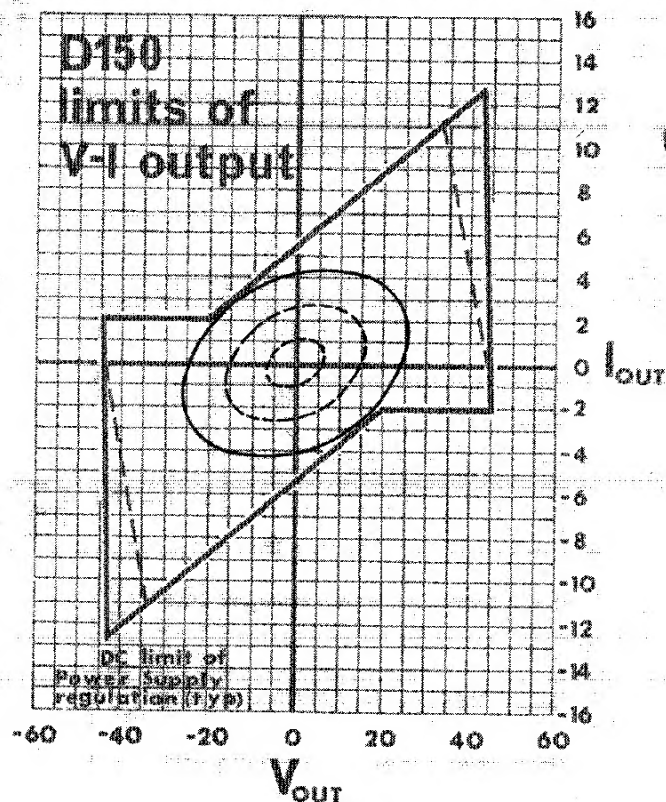

FIGURE 3-3.
The area in which the amplifier will drive the load without being V-I limited is depicted by the cross-hatched areas of Figure 3-3.
If a load initiates protection in the amplifier, it can be detected generally by watching the transfer characteristics of the amplifier on an oscilloscope or by plotting the load's V-I behavior, if known, on to Figure 3.3. In applications where the load is a loudspeaker, amplifier protection will be evidenced by distortion in the speaker. The audible effect ranges from something resembling cross-over distortion to a snapping sound, depending on the overall load characteristics. Speaker systems which are truly 8 ohms or greater will not initiate the protection system.
3. Never drive a transformer-coupled device or any other device which appears as a low frequency short (less than 3 ohm) without a series isolating capacitor. Such operations may damage the device and/or needlessly activate the V-I limiting (see Figure 3-3).